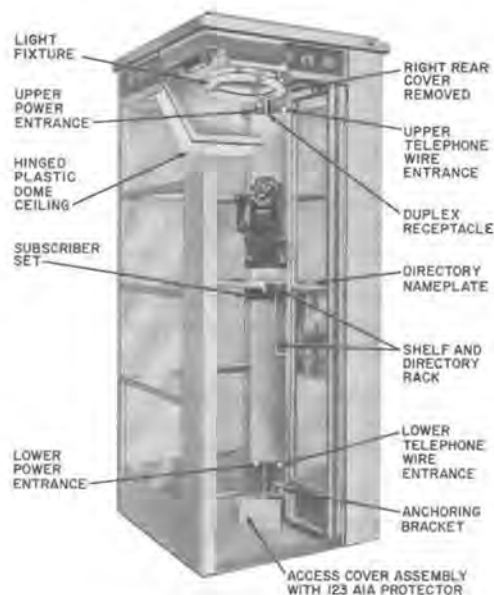

Fig. 2—KS-14611 Booth Showing Individual Features
BASIC BOOTH (Fig. 2)
2.14 Access covers (Fig. 2), located at the top and bottom of the right-rear column, provide access to the channels from inside the booth.